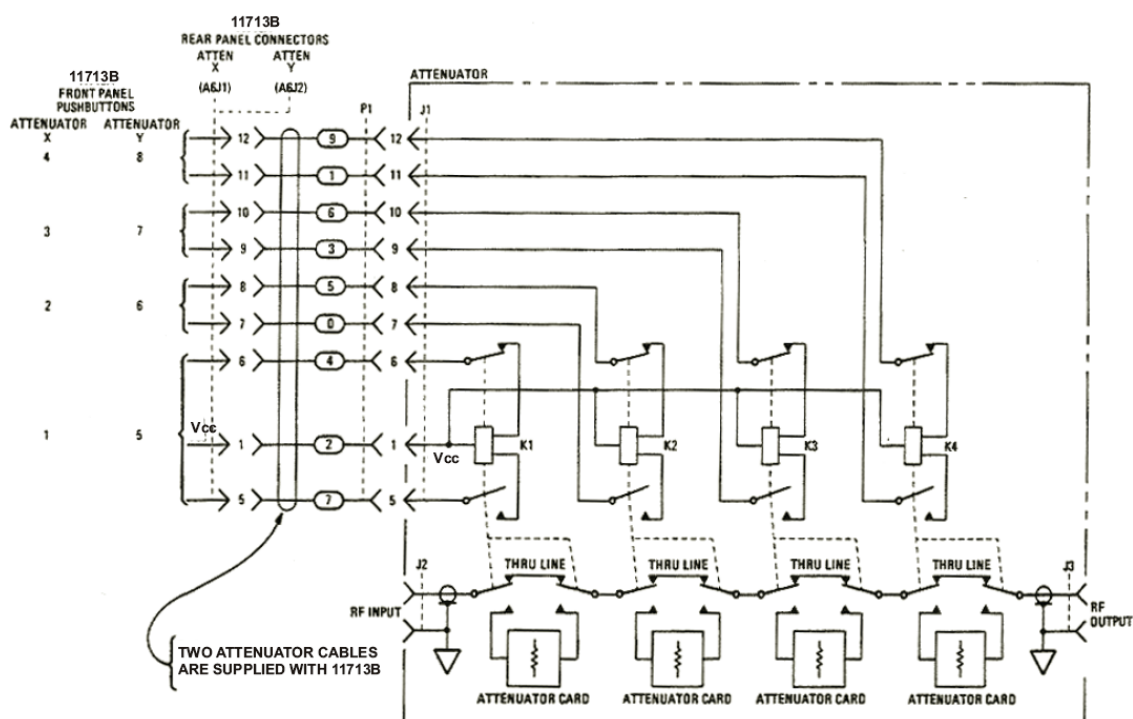

Figure 2-4 Typical connection for a programmable four-section attenuator
- A typical connection for a programmable four-section attenuator to 11713B is illustrated in Figure 2-4, together with pin number for each connector.
- Connections to Keysight 8762 or 8765 series coaxial switches can also be made to the ATTN X output or ATTN Y output as illustrated in Figure 2-4.